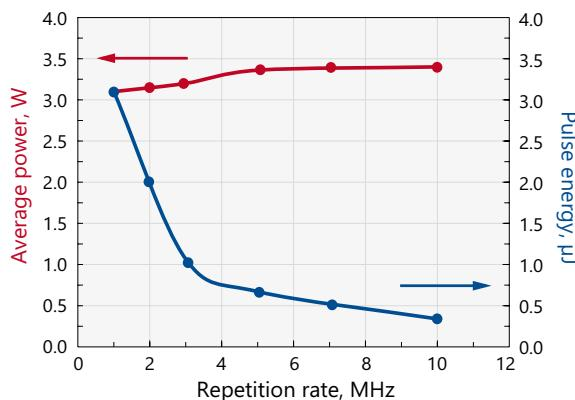
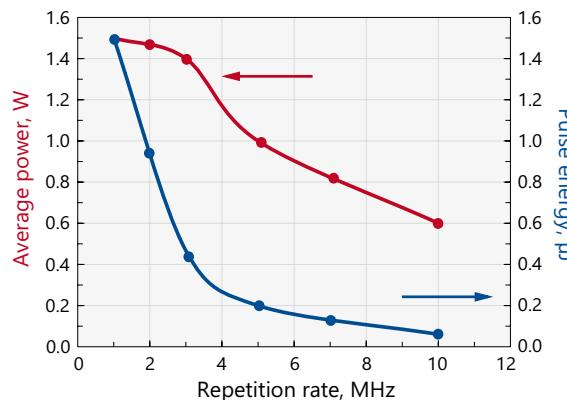

Fig 1. Typical dependence of output power and pulse energy of FemtoLux 3 laser **at 1030 nm** when changing internal repetition rate of the laser
Fig 2. Typical dependence of output power and pulse energy of FemtoLux 3 laser **at 515 nm** on pulse repetition rate
1) Due to continuous improvement, all specifications are subject to change without notice. Parameters marked typical are not specifications. They are indications of typical performance and will vary with each unit we manufacture. 2) See typical power and energy curves for other pulse repetition rates at Fig 1., Fig 2. and Fig 4.